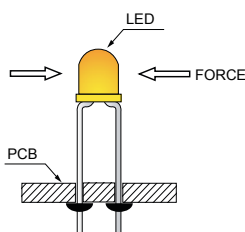

Fig. 10
- After soldering or other high-temperature assembly, allow the LED to cool down to 50°C before applying outside force. (Fig. 10)